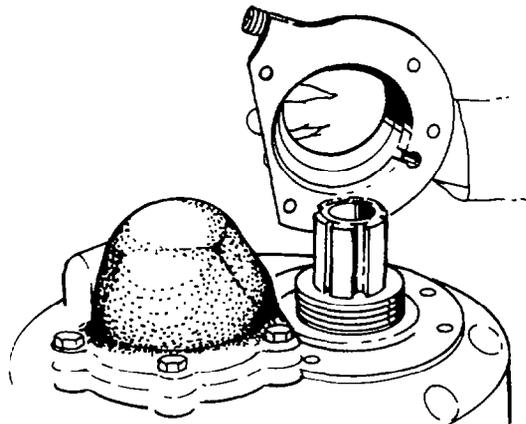

Fig. 217 — Removing Bearing Cover Assembly
- Remove the front output shaft bearing cover assembly and adjusting shims. Wire the adjusting shims together for use at reassembly (see fig. 217).